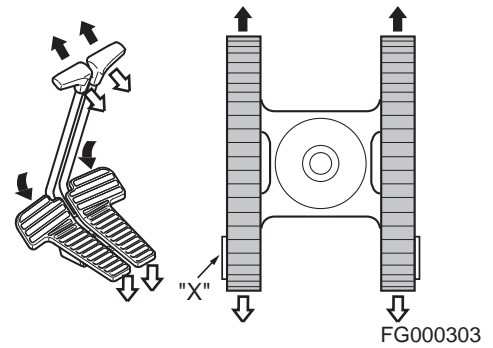

Figure 27
1. To travel straight (Figure 27), push both travel control levers/pedals fully forward or backwards. The farther the levers/pedals are pressed, the faster the travel speed.